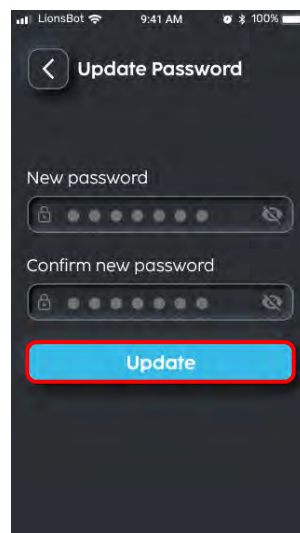

Fig. 8
6. Click on the 'Update' button to update password (Fig. 8).